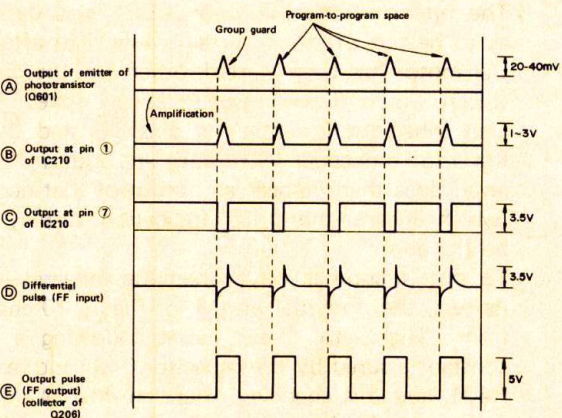

Figure 18-1
When the APMS sensor travels over the non-recorded part, the voltage at the emitter of its phototransistor comes to as Fig. 18-1—(A) shows: as the area of the non-record part is more and more wide, so is greater the waveform of the resultant signal.
The signal (A) leaving the program-to-program space detector sensor is, as it is very feeble, amplified by the operational amplifier IC (IC210, pins ①, ② and ③); the waveform of output signal is as shown in Fig. 18-1—(B).
It refers to the operational amplifier IC (IC210, pins ⑤, ⑥ and ⑦) and serves to transform the signal which has come from the program-to-program space detector sensor amplifier circuit, into a square wave signal; the output waveform is as shown in Fig. 18-1—(C).
It is a circuit in which the square wave signal from the waveform shaping circuit is once more differentiated to come to gain a specified width as shown in Fig. 18-1—(E). The new signal is then applied as a program-to-program space detection pulse to the microprocessor unit.